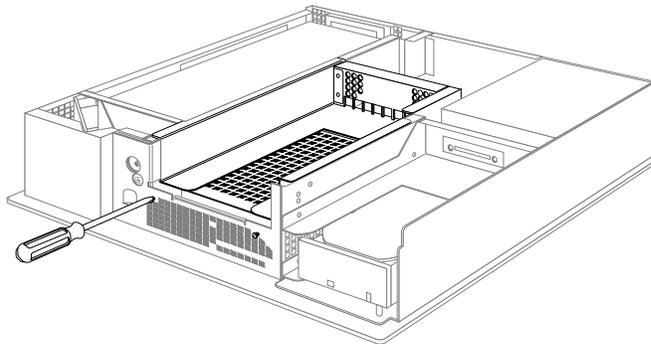

Figure 5 Loosening the screws on the 5-1/4" drive tray.
- Loosen the two screws that hold the 5-1/4" drive tray to the chassis, as shown in Figure 5.